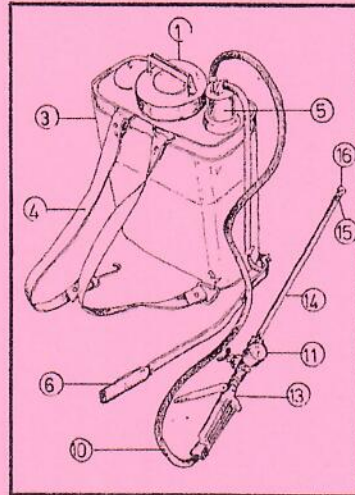

Figure 2. Parts of a knapsack sprayer.
- a) Figure 2 show a picture of knapsack sprayer. Name the parts labelled in Table 2 and indicate their functions. [10 marks]